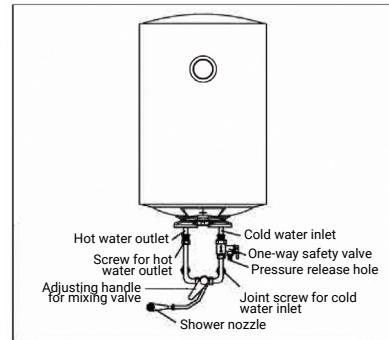

Fig. 3
- In order to prevent leaks when connecting the pipes, the rubber sealing gaskets provided with the thermos must be added to the end of the threads (see Fig. 3). Ensure leak-proof joints.